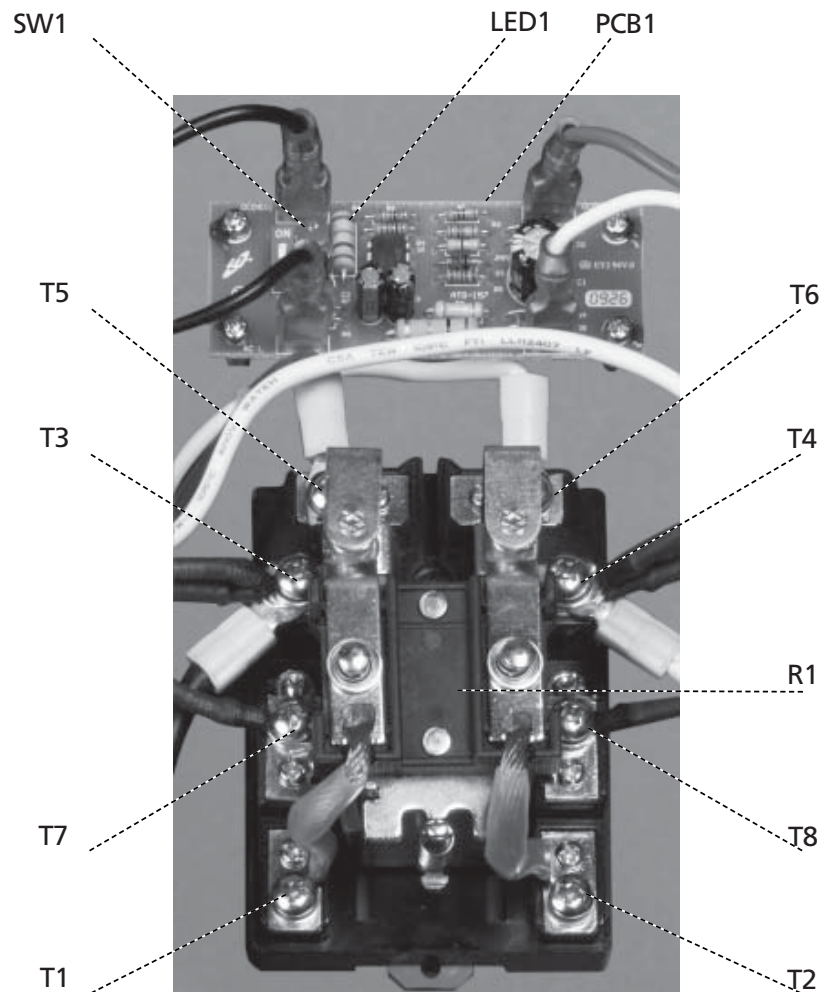

Fig. 2. Internal layout of contacts of the transfer relay and the PCB for relay control
Transfer Switch STS is designed for single phase operating voltage of 120 VAC, 60 Hz and can handle input/ output current of up to 30 A or an Apparent Power of 3600 VA (Apparent Power = Volts X Amps. In this case: 120 V X 30 = 3600 VA). It consists of a Transfer Relay (Fig. 2, R1) and a Relay Control PCB (Fig. 2, PCB1) for controlling the operation of the Transfer Relay.
- Consists of heavy duty 110 VDC, Double Pole Double Throw (DPDT) relay for switching both the Line and Neutral. (R1, Fig 2)
- Internal DIP Switch ( SW1, Fig 2) for enabling or disabling delayed transfer to generator
- Internal LED (LED1, Fig 2) for indicating energized condition of the transfer relay coil (R1, Fig 2) and for diagnostics
### Operation of the Transfer Relay (Please see Fig 2)
A number of  $\frac{3}{4}$ " and 1" knockouts have been provided on all the sides (7, Fig 2) for ease of routing the input and output cables. Choose a knockout that will facilitate installation and service within the selected mounting area. Use  $\frac{3}{4}$ " or 1" cable clamps as necessary to clamp the cables entering and exiting the box.
1. Attach an 8 gauge earth ground wire to the transfer switch chassis ground lug (6, Fig 2). 4 studs with serrated lock washers and nuts have been provided on the inner bottom of the case to make grounding connections from the inner side .
4. For making firm connections to the terminals (T1 to T6, Fig 2) of the Transfer Relay (R1, Fig 2), please crimp appropriate size of insulated ring / spade lugs on the ends of the conductors of the cables.
- f. In case the primary power source is electric utility / shore power cord, the time delay of 20 sec has to be disabled by setting the internal DIP Switch SW1 (Figs 2, 4) to ON position. In case the primary source is generator, the internal DIP Switch SW1 (Fig 2, 4) should be retained in the preset off condition (1) .
- d. The time delay circuit should be energized. The DIP switch SW1 (Fig 2) should be in the "off " position (marked "1").